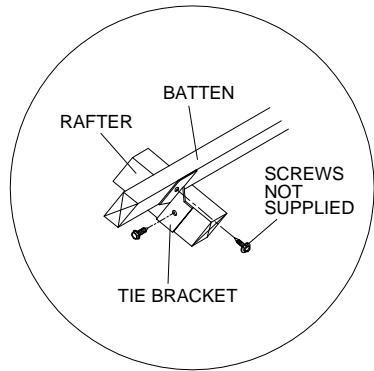

figure 4
STEP 1: Enter the roof space and locate the area underneath the chosen mount site. Fasten a tie bracket between each rafter and batten (see fig 2, fig 3, & fig 4).